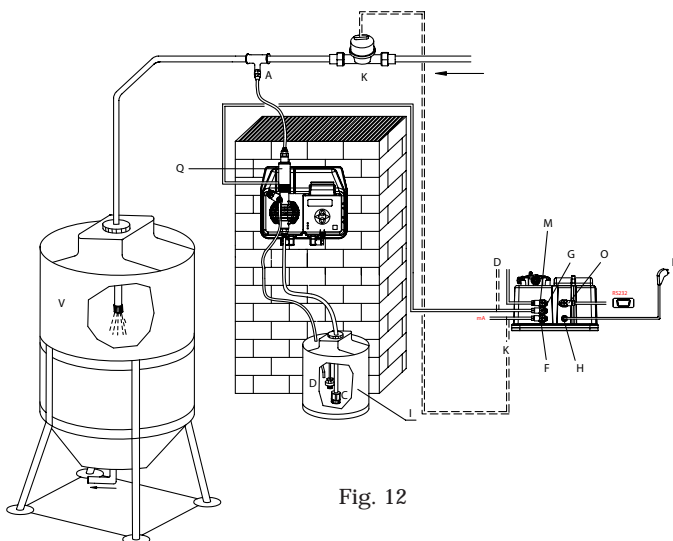

Fig. 12
6.0 - TYPICAL INSTALLATION (Fig.12 & 13)